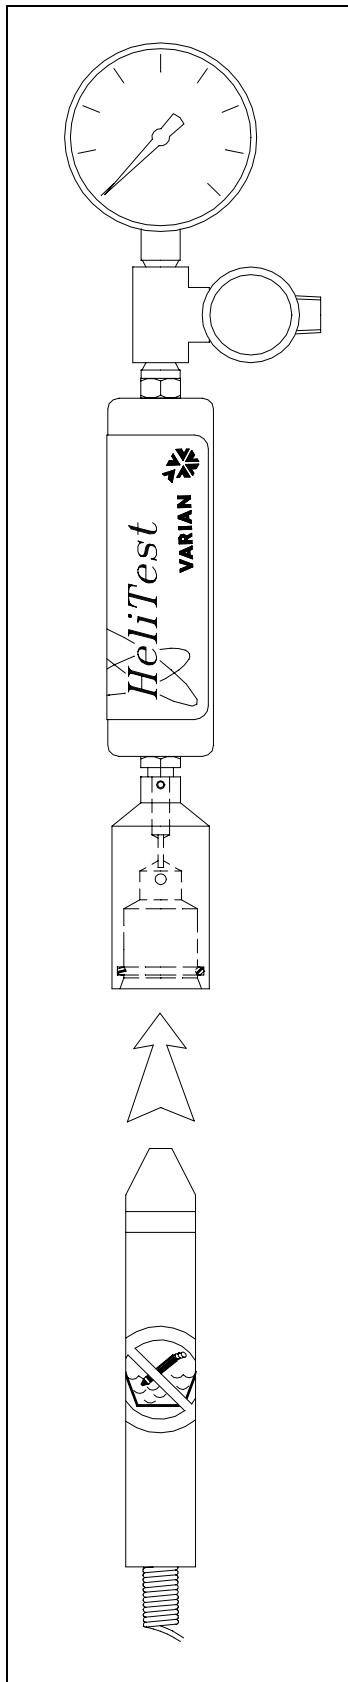

Figure 3
- 5) Insert the HeliTest probe in the calibration chamber (see figure 3); the display show: